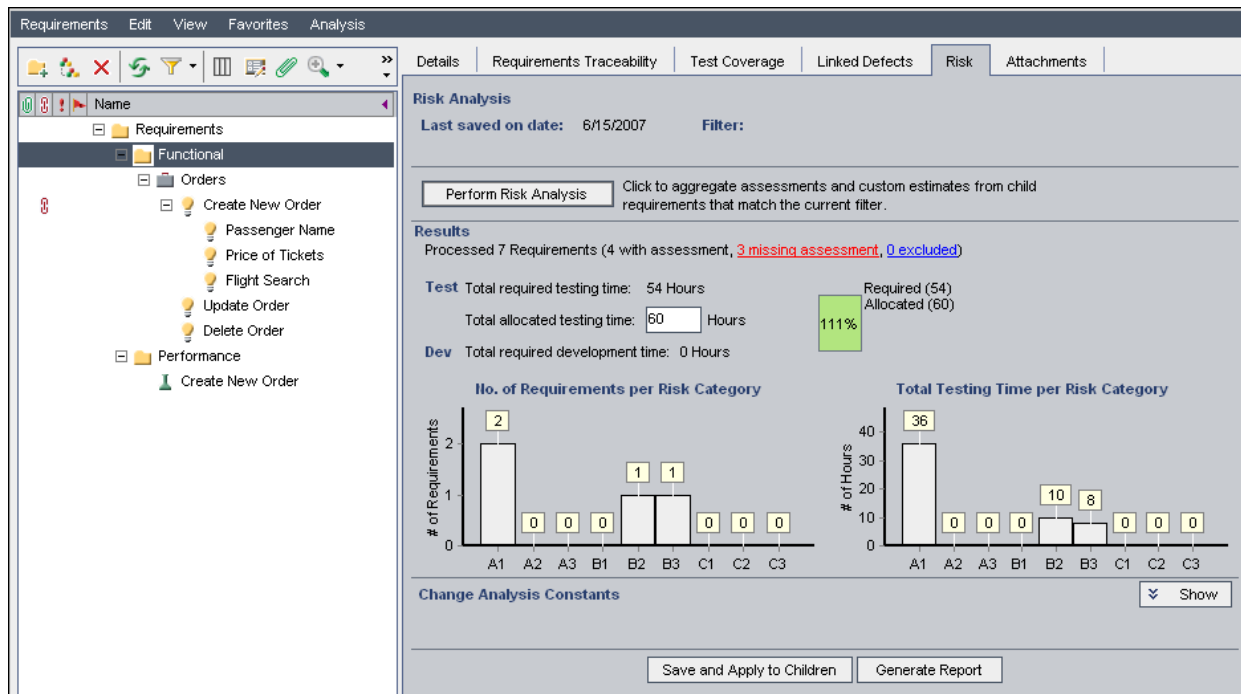

Figure 4-14 Risk Analysis
17. Click **PERFORM RISK ANALYSIS**. The updated graphs and fields appear on the **RISK** page. Compare your **RISK** page with Figure 4-14.